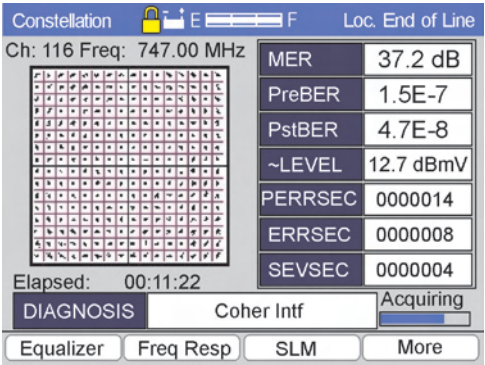

Figure 4-26
**Constellation** - Pressing the DOWNSTREAM (F1) Function key from the Downstream Modem Test screen will take the user to the Downstream Constellation screen shown in Figure 4-26. The downstream
**AUTO DIAGNOSIS** - All downstream detail screens including the Cable Modem downstream, contain an auto-diagnosis function as seen in Figure 4-26. This patent pending function will automatically diagnose QAM impairments and report them in the DIAGNOSIS window (lower portion of the screen). The CM1000 will auto diagnose impairments including phase noise, coherent disturbances, intermittent interference (and laser clipping) and compression.
**More** - More offers additional function selections, including: EQUALIZER, FREQ RESP, ZOOM, STATS and MORE as shown in Figure 4-26. The Zoom function can be used to “zoom” in on any quadrant of the constellation display.